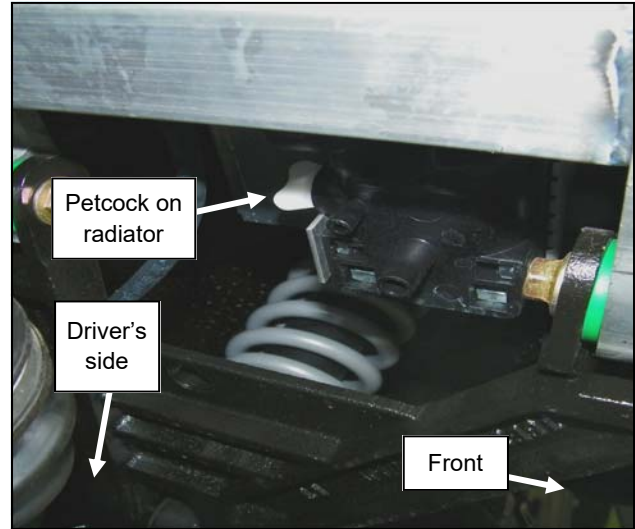

Fig. 1.2
- 1.2 Drain cooling system by opening the petcock located on lower rear driver's side of the radiator. See figure 1.2. Remove the radiator cap to aid in the draining process.